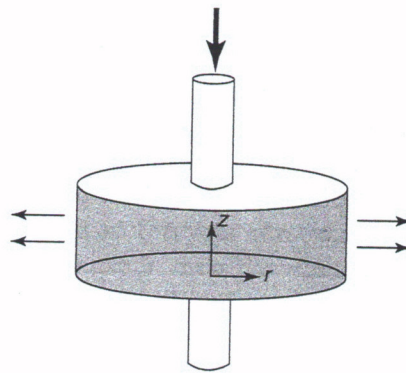

Figure 5.38
31. How do the velocity components simplify for the squeezing flow shown in Figure 5.38? For a Newtonian fluid, how does the extra-stress tensor simplify as a result of this?